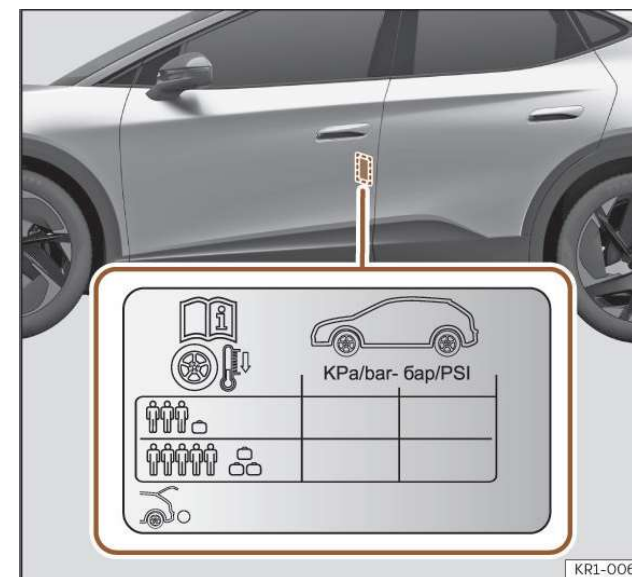

Fig. 200 Location of the tyre pressure sticker.
- Adjust tyre pressure to the load being carried by the vehicle >>> **Fig. 200**.
The values of the tyre pressure are shown on the sticker label located on the read frame of the front left door >>> **Fig. 200.**
The tyre pressure must be adjusted according to the load the vehicle is carrying. If the vehicle is going to be fully loaded, increase the tyre pressure to the maximum load value shown on the sticker label >>> **Fig. 200.**
In the case of a minimised temporary spare wheel (125/70 R16 or 125/70 R18) inflate to a pressure of 4.2 bar as indicated on the tyre pressure label >>> **Fig. 200.**
- The driver is responsible for ensuring that all of the vehicle tyres are correctly inflated to the right pressure. The recommended tyre pressure is indicated on the label >>> **Fig. 200.**
- Tyre pressure should be that indicated on the label when the tyres are cold at all times >>> **Fig. 200.**